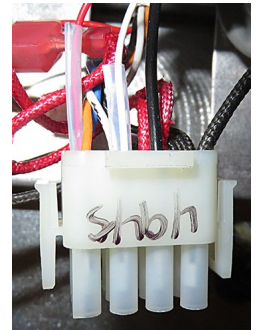

Figure 14
19. Gently tug on the two (2) wires inserted into the connector in the previous step to ensure the pins are fully locked into the connector
21. Disconnect the plug located to the right of where your hand is located and gently lower ensuring that no pins are pulled from the plug (see Figure 14).